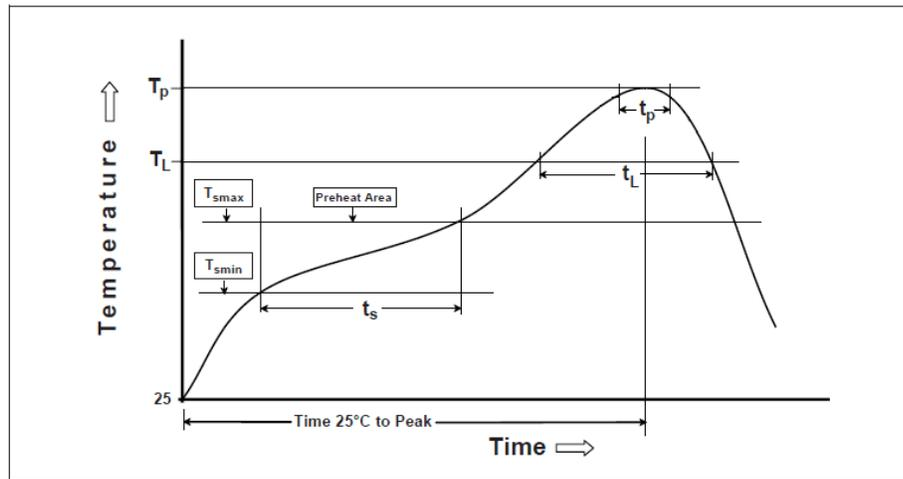

Figure 16. Reflow profile definition according to JEDEC J-STD-020E
1. The pick-up area is defined in Figure 16.
As a point of reference, the melting temperature for SAC 305 is 217°C, and the minimum peak reflow temperature is 235°C. Lumileds successfully utilized the reflow profile in Figure 16 and Table 6 for Versat LEDs on FR4 and MCPCB.